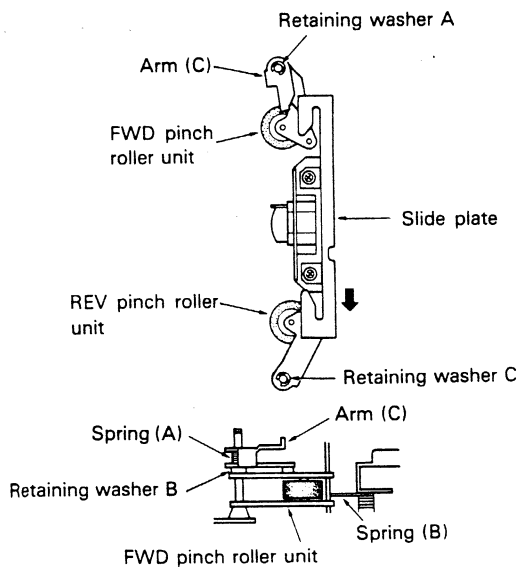

Fig. 6
2. To replace the FWD pinch roller unit, remove retaining washer A and remove arm (C) from the shaft. Spring (A) is also removed at the same time (Figure 6).
3. Remove retaining washer B (Figure 6) and remove the FWD pinch roller unit from its shaft. While removing this unit, remove the spring from the other shaft.
4. To replace the REV pinch roller unit, pull the slide plate in the direction indicated by the arrow in until it locks and remove retaining washer C (Figure 6).